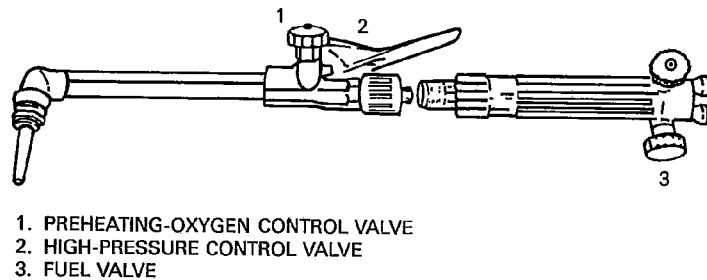

Figure 7—Combination Torch
(2) *Combination Hand Torch* (see Figure 7). A torch consisting of a gas welding torch handle to which a cutting attachment is fastened. The valve to control the preheat oxygen is usually located on the cutting attachment. Other features are basically the same as the standard cutting torch.